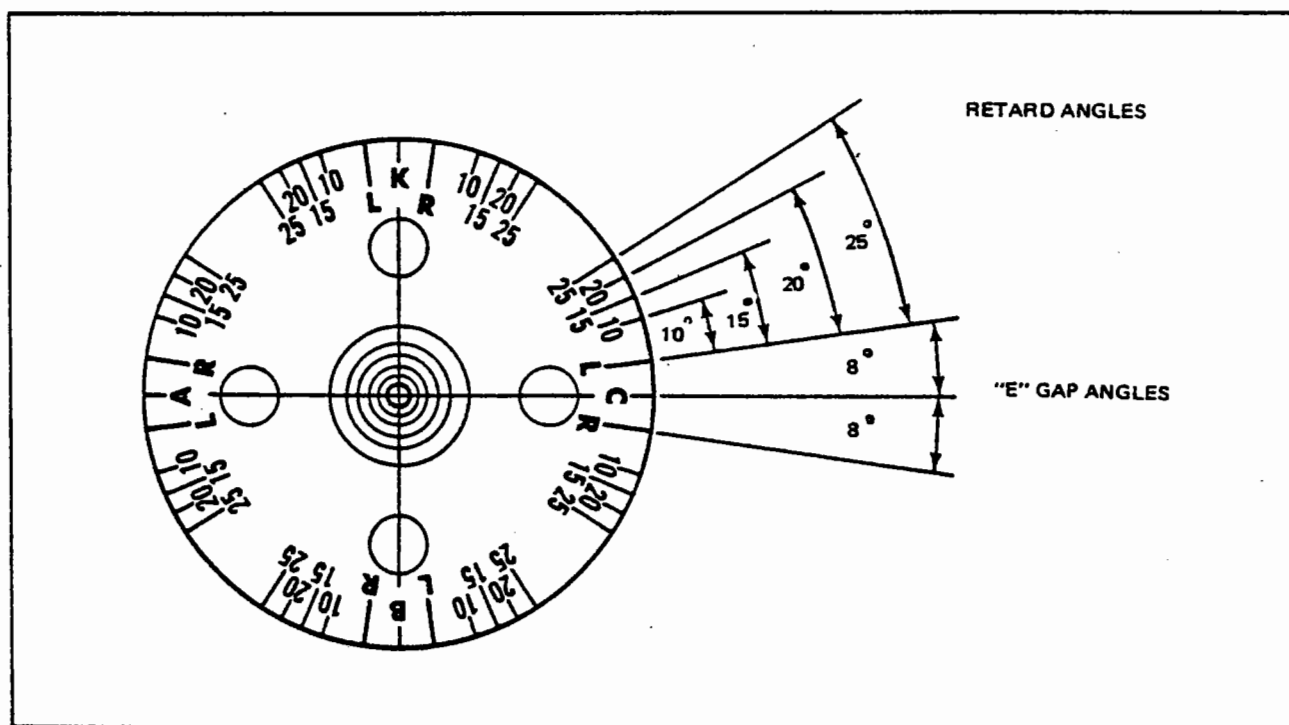
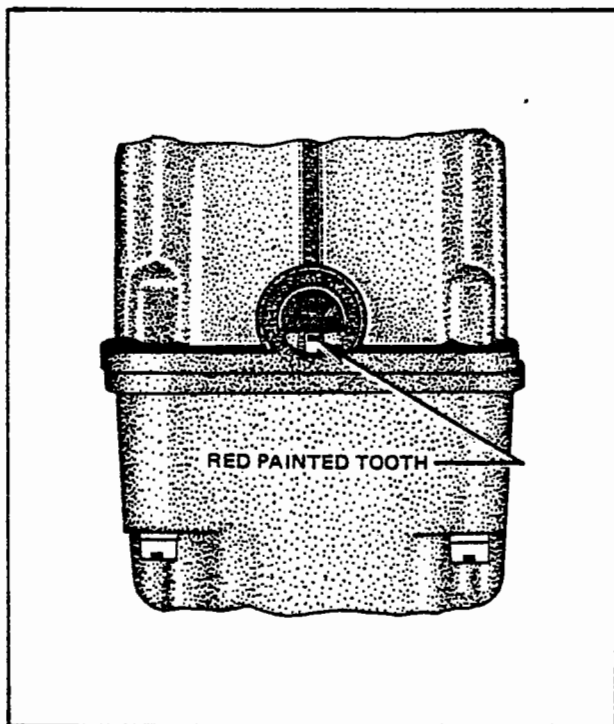
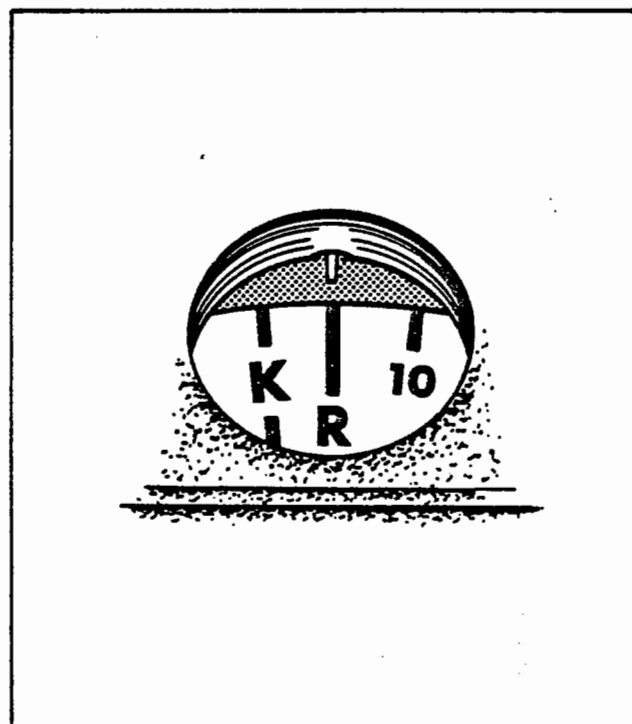

Figure 74-5. Timing Marks on Magneto Rotor
Figure 74-6. Painted Tooth Centered
Figure 74-7. Timing Mark on Rotor
4. The magneto incorporates a built-in pointer and a degree wheel with sufficient reference to assist the mechanic in magneto timing procedures. Printed upon the rotating magnet are marks to indicate magneto neutral and magneto "E" gap (8°). (Refer to Figure 74-5.) Also included are retard angle references of 10, 15, 20 and 25 degrees. These marks are set up for either clockwise (R) or counterclockwise (L) rotation of the magneto as viewed from the magneto drive end. The timing tooth of each large distributor gear is marked with red paint. (Refer to Figure 74-6.)
6. Remove the plug from the distributor inspection windows at either end of the magneto housing. (Refer to Figure 74-6.) Also remove the plug from the "E" gap inspection window on the data plate side of the magneto housing. (Refer to Figure 74-7.)